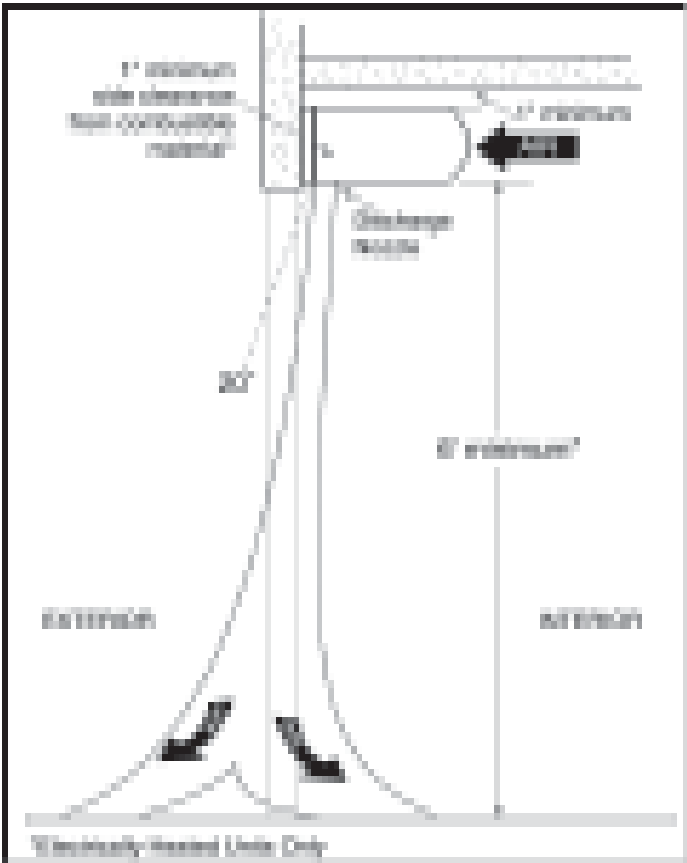

FIGURE 1 - Mounting Location
- A. When determining the mounting location for the unit(s), make sure that nothing interferes with the curtain of air developed when the discharge vanes are directed from 0° to 20° toward the door opening. If the air stream strikes any obstruction (the top edge of the doorway, a door opening device, etc.), the effectiveness of the unit will be greatly reduced. See Figure 1